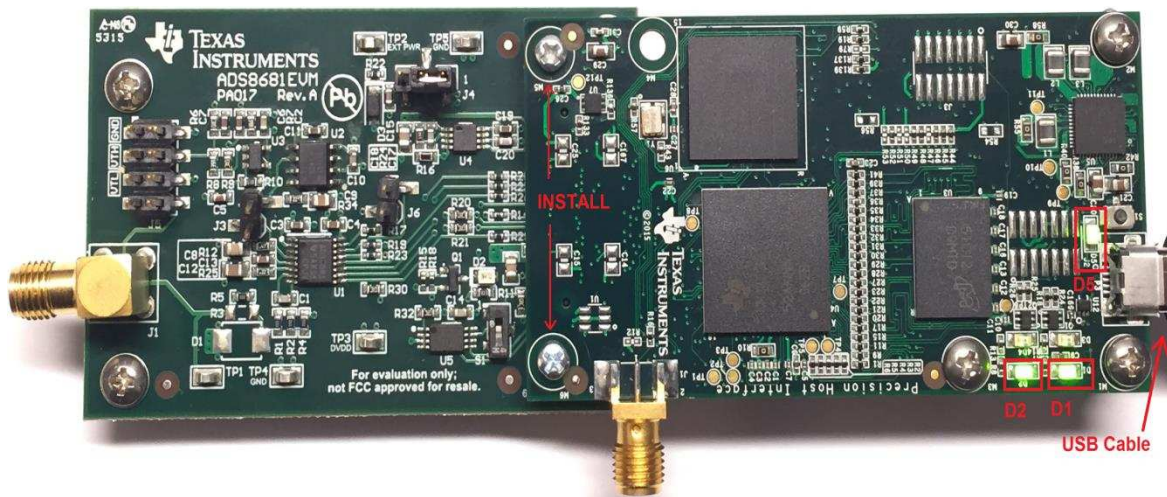

Figure 9. EVM-PDK Hardware Setup and LED Indicators
1. Connect the ADS8681EVM to the PHI. Install the two screws as indicated in Figure 9.